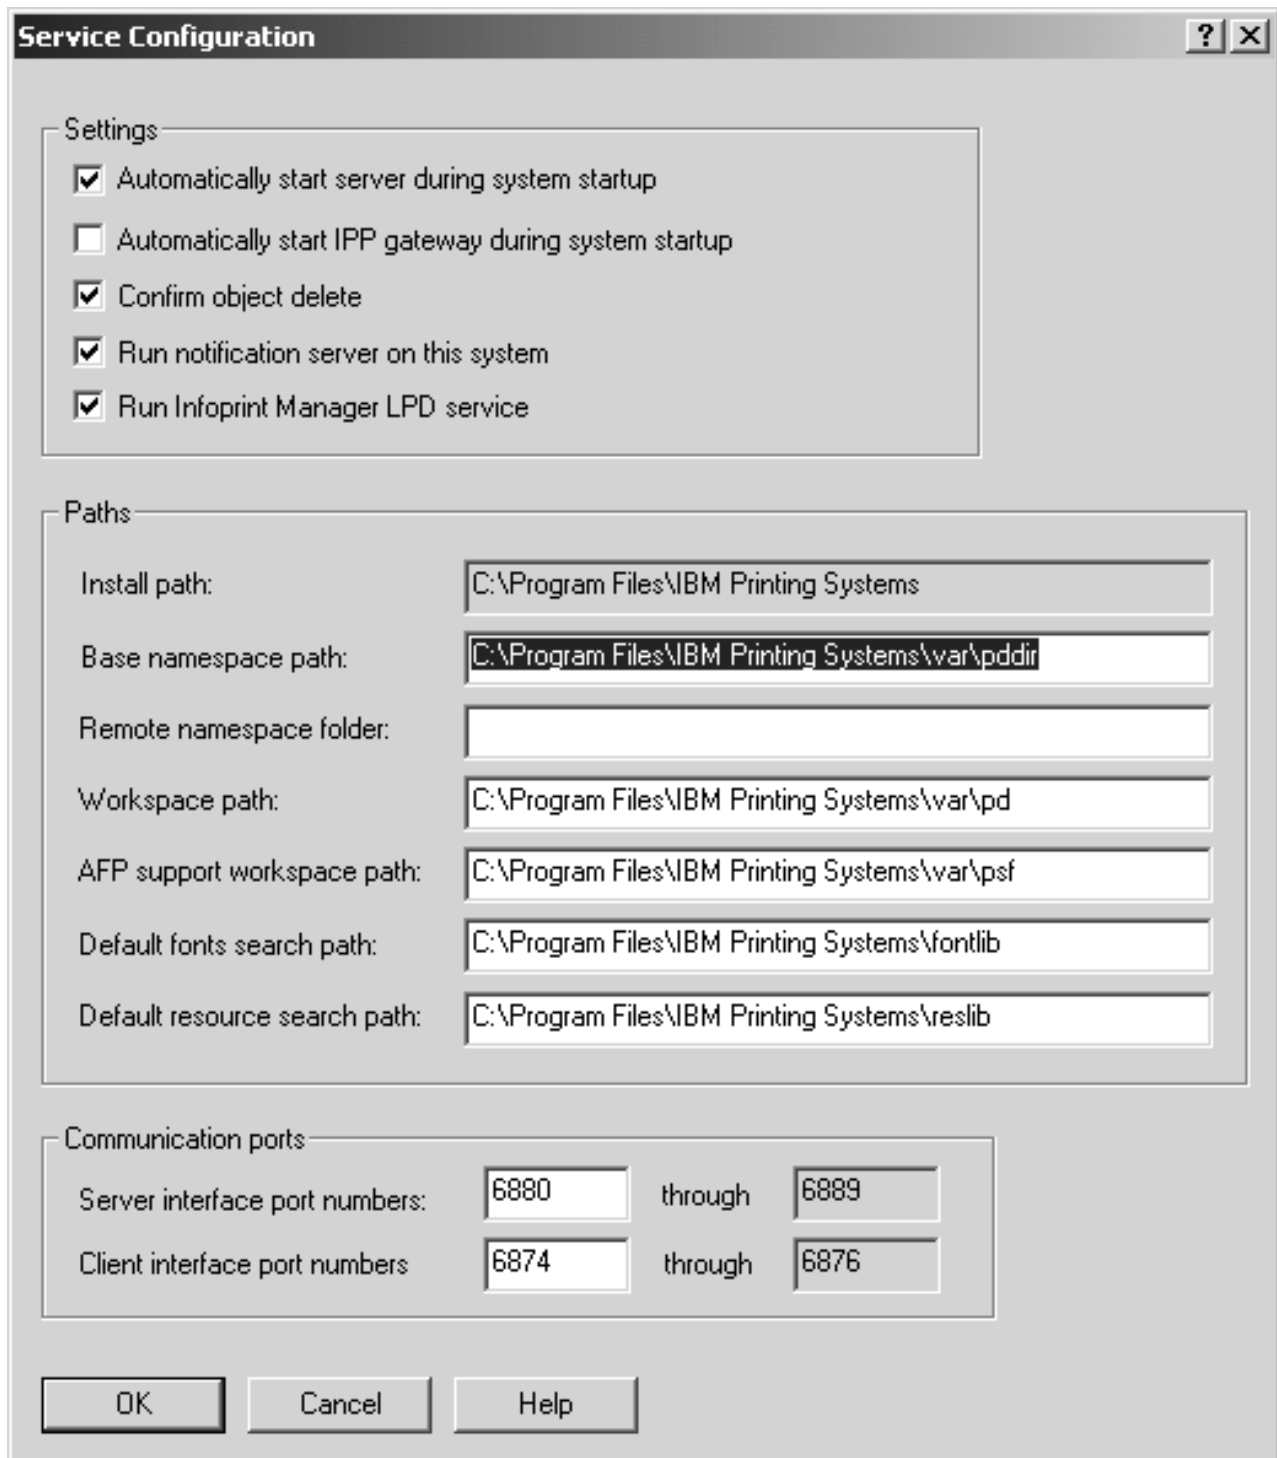

Figure 66. MMC Service Configuration window
4. From the **Service Configuration** window, ensure that the **Run Infoprint Manager LPD service** check box has been checked (as shown in Figure 66 on page 154). Press **OK** to save this change.